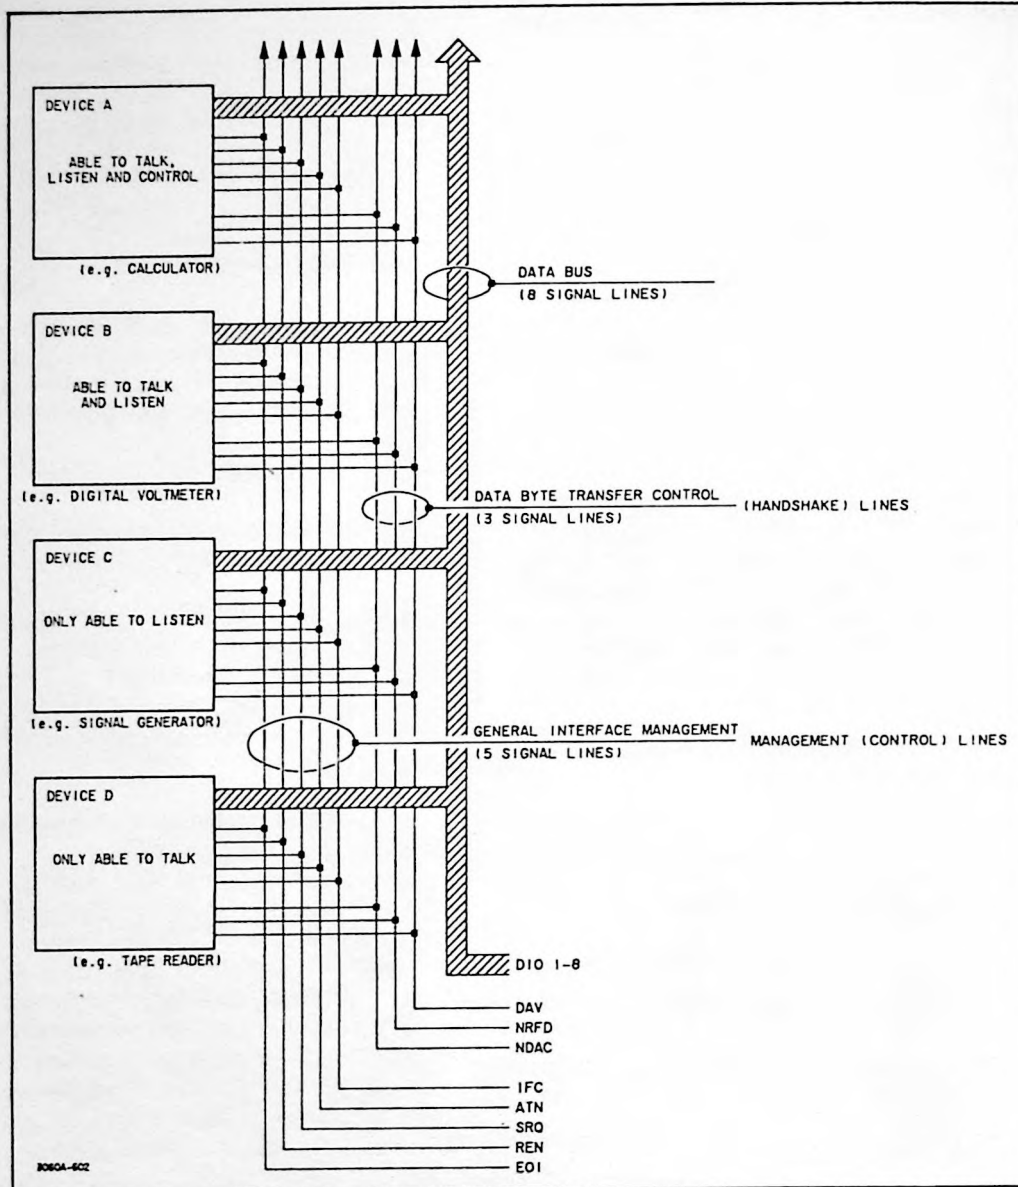

Figure 3-9. Interface Connections and Bus Structure.
c. CONTROL LINES - The remaining five lines operate independently and in conjunction to send Bus Management Messages to the devices connected to the HP-IB. The HP-IB interface connections and bus structure are shown in Figure 3-9.
3-49. The handshake lines are shown in Figure 3-9. The mnemonics of each line have the following meaning: